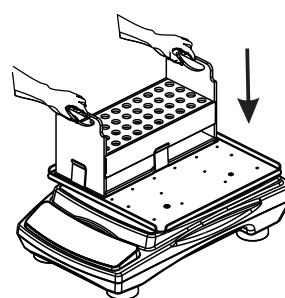

figure 4
4. Insert the test tube (figure 4).